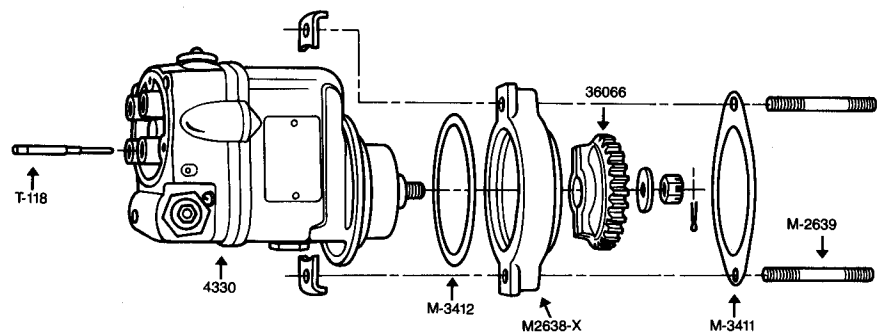

Figure 2
**Note:** The spacer and gasket must be assembled onto the magneto prior to installing magneto drive gear as described in the following instructions. See Figure 2.
- A. Insert the T-118 timing pin provided in the R hole of the distributor block. See Figure 2
- A. Install the M-3412 spacer to accessory case gasket onto the magneto mounting flange. Mounting surfaces must be clean. See Figure 2